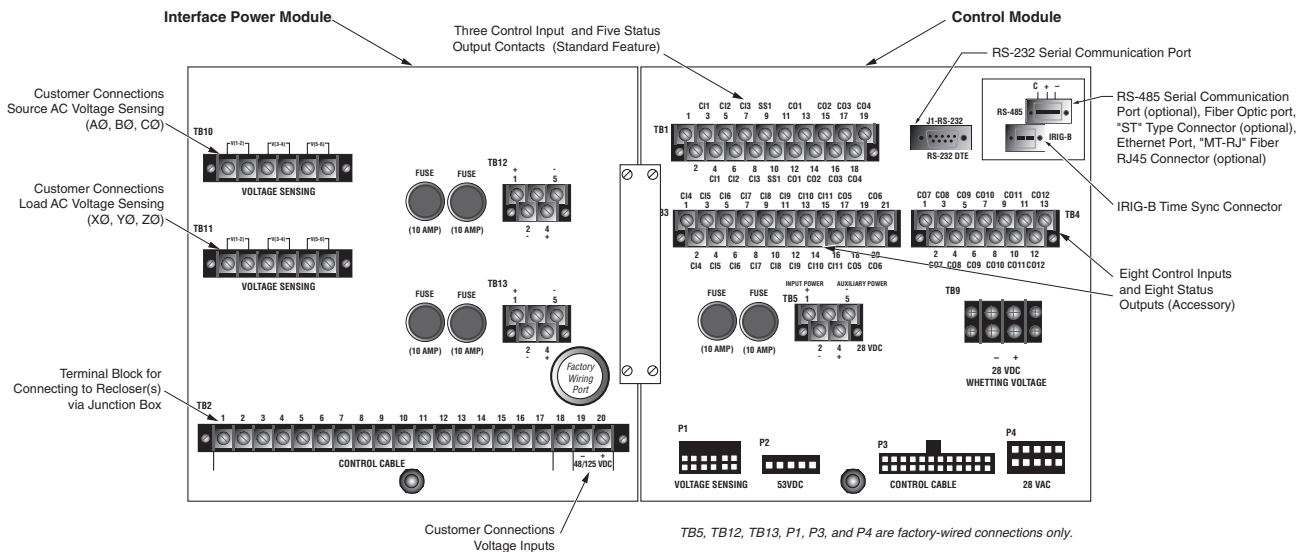

Figure 27. Back of Form 6-TS rack mount recloser control
3. Use a screwdriver to connect all wiring on terminal block TB2 (Figure 27) to the control in this specific order:
4. Connect any serial communications ports and IRIG-B timing connection (Figure 27).
5. Connect any control input and status output wiring to TB1, TB3, and TB4 (Figure 27).